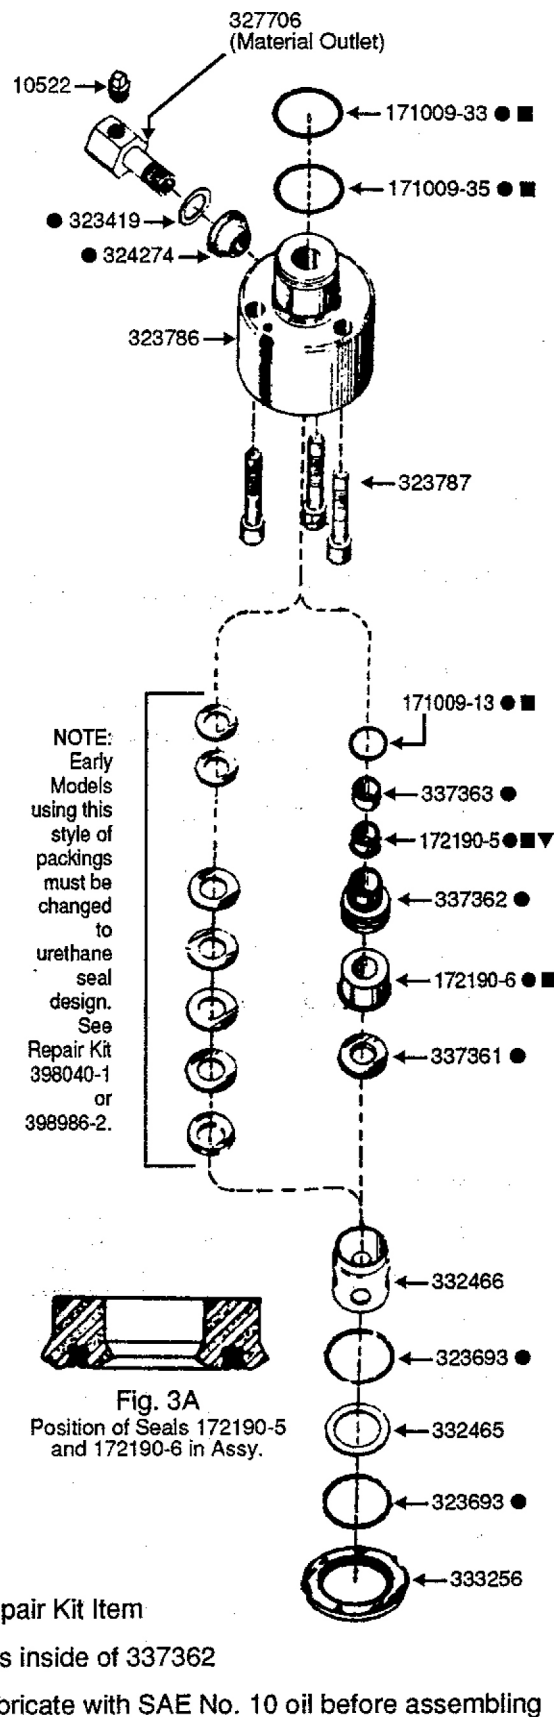

Figure 3: Body and Packing Group
C. SERVICING BODY & PACKING GROUP: (Figure 3)
393040-1 For Body and Seal Group (Figure 3)
PARTS LIST• Body and Packing Group (Figure 3)